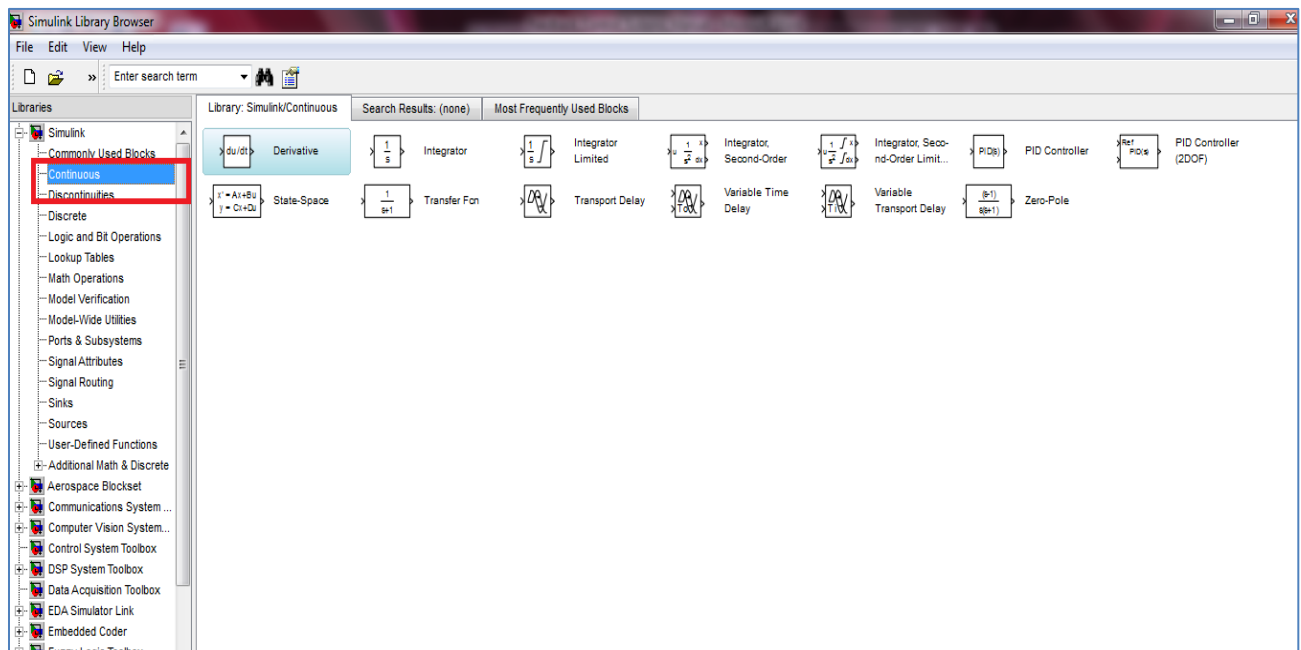

Figure 3.5
- b. Double-click the “Continuous” button in the SIMULINK Library Browser to see what blocks are provided for continuous control systems. Grab and slide the “Transfer Fcn” block to your workspace (Refer to Figure 3.5).